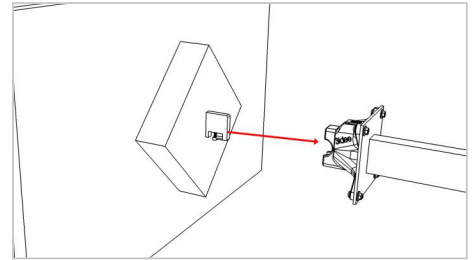

Figure 3
**Note:** Apply a **little** pressure if necessary! (Figure 3)